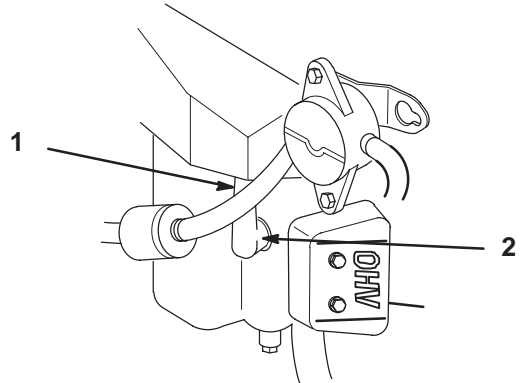

Figure 27
2. Pull the wire(s) off the spark plug(s) (Fig. 27). Now clean around the spark plug(s) to prevent dirt from falling into the engine and potentially causing damage.